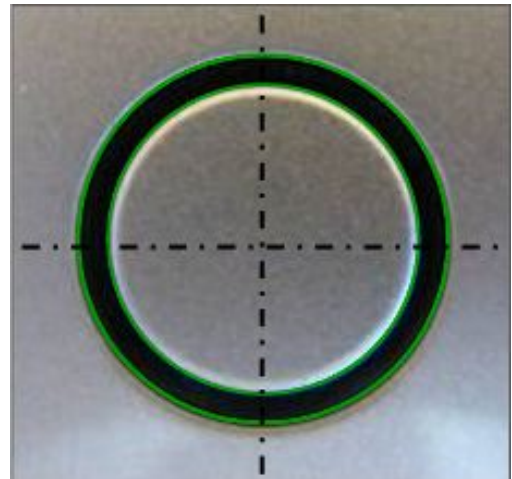
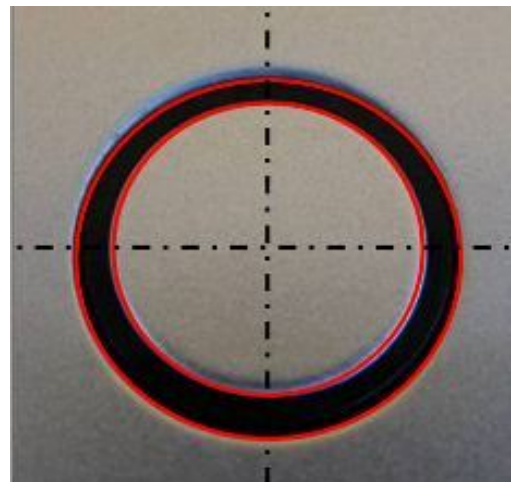

Figure 6. A correctly centered parking aid sensor.
Figure 7. An off-center parking aid sensor.
8. Verify that the sensor is centered inside of the mounting hole (Figure 6, Figure 7). If the sensor is mounted off-center, remove the bumper and reinstall the sensor.